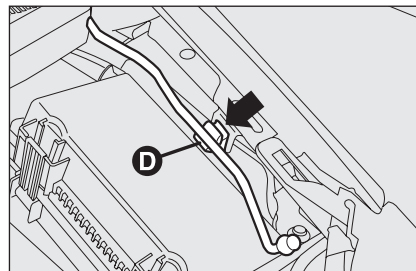
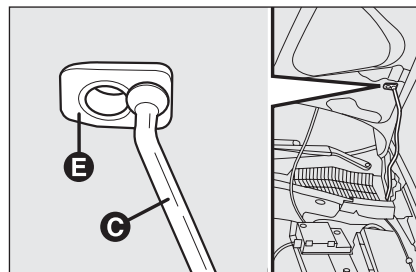

fig. 96
fig. 97
- lift the bonnet and at the same time release the rod **D-fig. 96** from the catch, then fit end **C-fig. 97** of the rod into the bonnet recess **E**.
- hold the bonnet up with one hand and with the other remove rod **C**-fig. 97 from seat **E** and fit it back into its catch **D**-fig. 96;